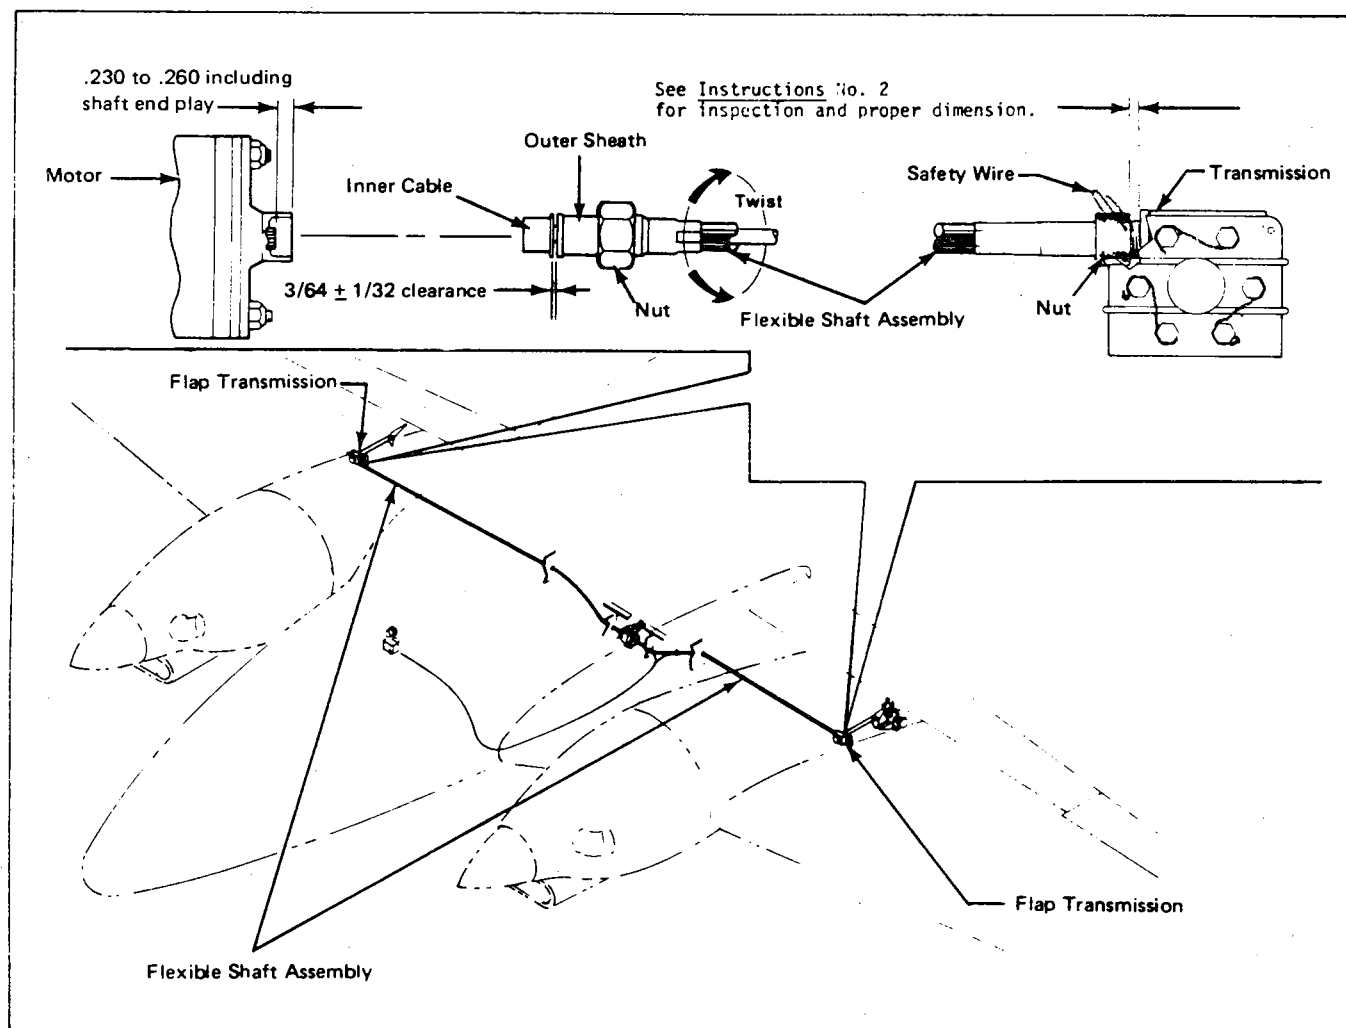

Figure 2. Wing Flap Actuator Cable
2. INSPECTION OF WING FLAP TRANSMISSION ACTUATOR SHAFT. (Refer to Figure 2.)
- 3. Twist outer sheath in proper direction (to lengthen or shorten), bringing clearance to $3/64 \pm 1/32$ of an inch. It may be necessary to loosen clamp on fuselage bulkhead in order to twist outer sheath. (See Figure 2.)